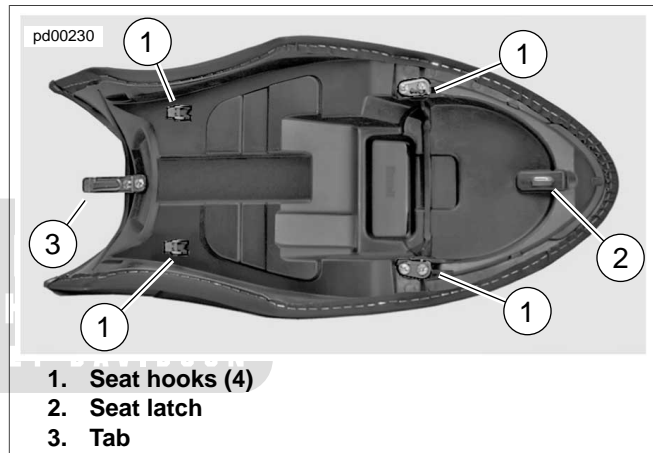

Figure 2-194. Seat Mounting Points: XB12Ss
- b. **For XB12Ss:** Insert the front tab into the slot behind the air intake cover. See Figure 2-194.